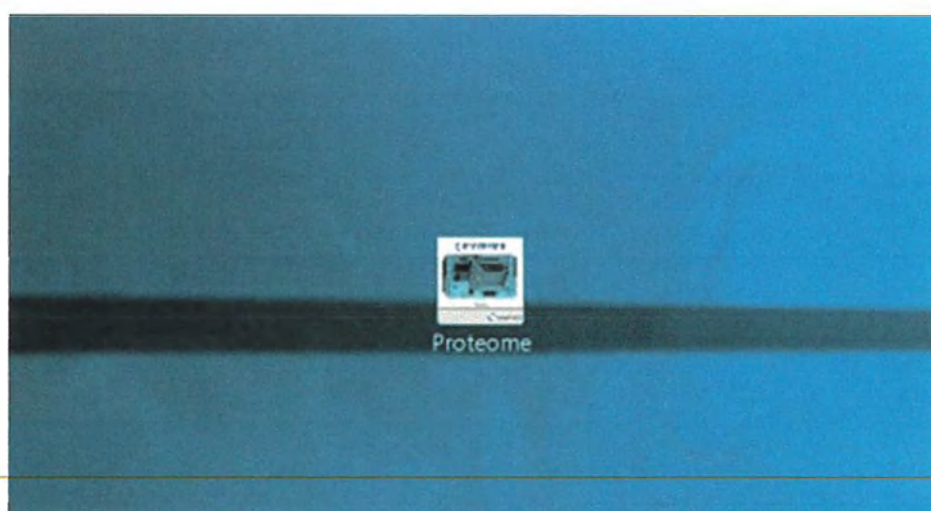

Figure 20
9.5.3.1 Double click the “Proteome” icon on the PC screen [Figure 20].